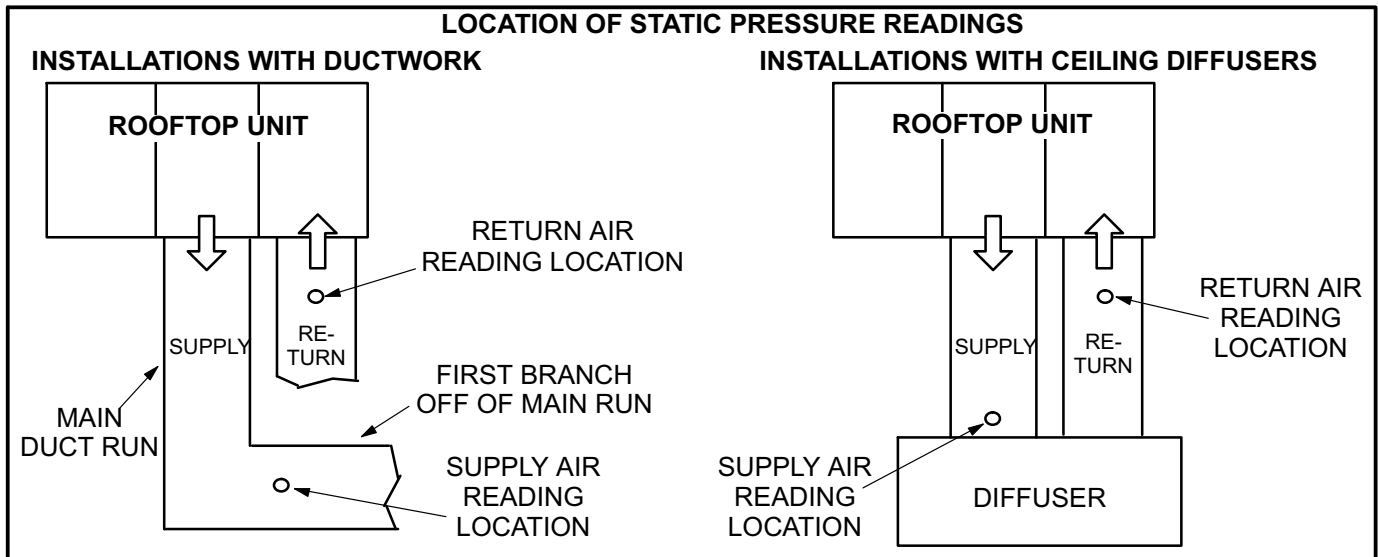

FIGURE 14
- 2- With all access panels in place, measure static pressure external to unit (from supply to return). Blower performance data is based on static pressure readings taken in locations shown in figure 14.